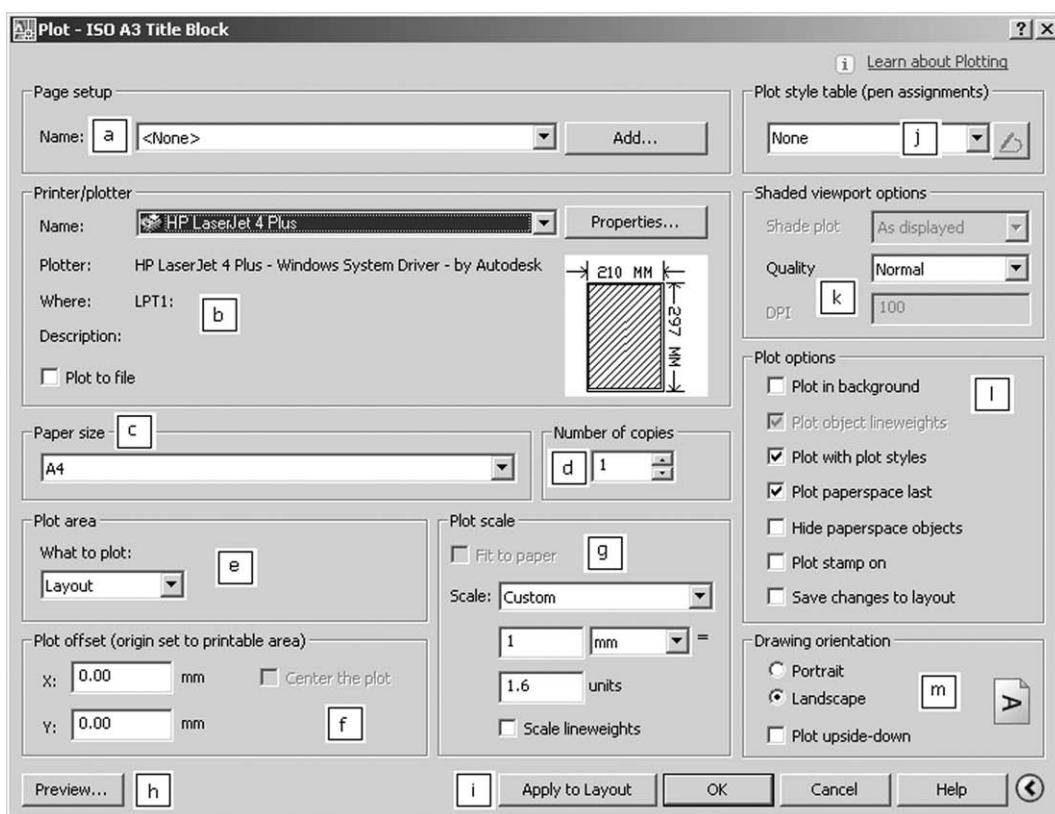

Figure 36.2 The Plot dialogue box.
2. Plot dialogue box as Figure 36.2